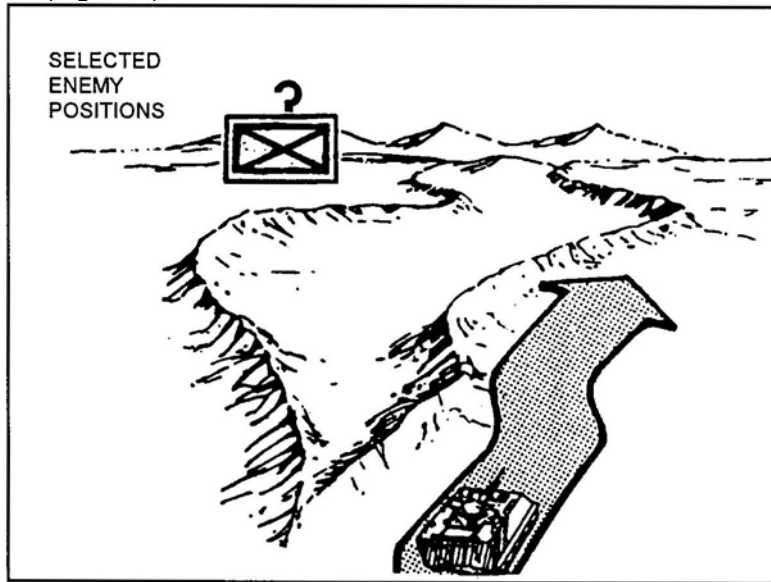

Figure 1. Choose route cover and concealment.
1. Give the driver clear, specific instructions as to the route that affords the best use of available cover and concealment (Figure 1).